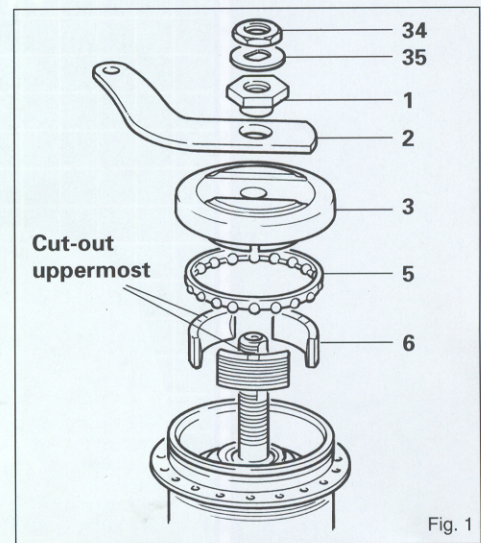
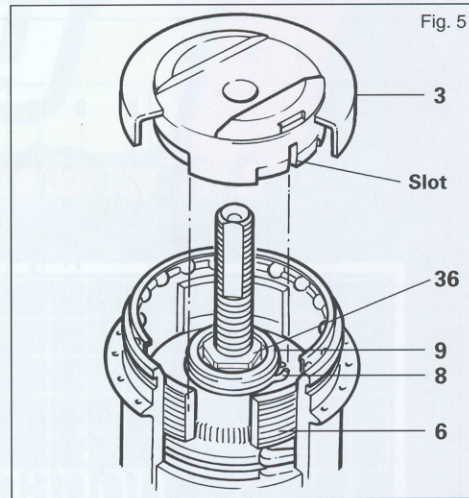

Fig. 1
Fig. 5
3. (See Fig.1) Clamp right hand end of axle in a vice and unscrew the left hand cone locknut, spacing washer, and brake arm nut. Remove the brake arm, left hand cone and dust cap assembly, and brake shoe segments. Remove the brake actuator assembly by turning hub-shell clockwise. Remove hub from vice.
- Clamp right hand end of axle in vice and fit brake actuator assembly to left hand end of axle, turning clockwise to ensure the internal screw threads engage with planet cage. Fit the 3 brake shoe segments such that the cut-outs are uppermost (see Fig. 1), the tag of the brake actuator drag spring lines up with one of the cut-outs, and the three segments
- (See Fig. 1). Fit ball cage assembly, with balls facing down. Fit left hand cone, lining up the slot on the underside of the cone (See fig. 5) with the brake actuator drag spring tag. Slide over the axle to engage tag, checking the cone is correctly seated by rotating slightly ensuring that it engages with the brake shoe segments (see Fig. 5). Fit brake arm, spigotted brake arm locknut, washer and locknut. Adjust hub as described in Part 2. Remove hub from vice.